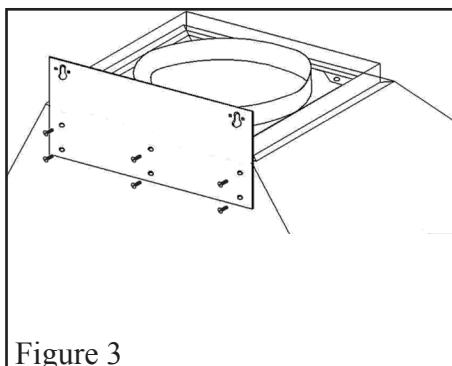

Figure 3
3. Attach the hood-mounting bracket to the back of the hood with six screws as shown in Figure 3.